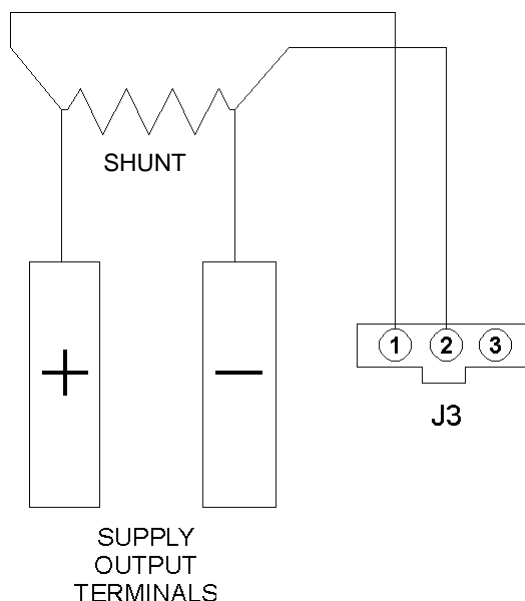

Figure 4–1 Precision Current Shunt
- Connect the power supply to a precision current shunt (as shown in Figure 4–1 below) capable of a minimum of 10% above full rated output. A fan may be required to cool the shunt.
2. Connect the power supply to a precision current shunt (see Figure 4–1, Section 4.1.2 Preparation).
2. Connect a precision shunt as shown in Figure 4–1.